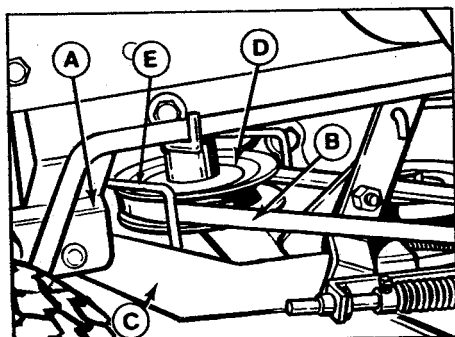
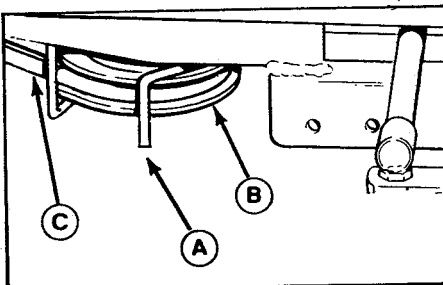
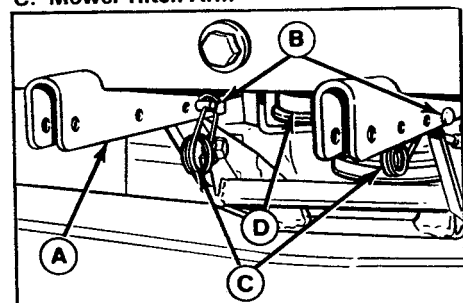

Figure 3. L.H. PTO Pulley Belt Stop
Figure 5A. R.H. PTO Pulley Belt Stop
Figure 4. Mower Hitch Attached
7. Position the mower hitch arms (C, figure 3) so they are underneath the rear holes in tractor hitch (A, figure 4). Lift up one side of mower with both hands
and align hole in mower hitch arm with rear hole in tractor hitch. When holes align, use one hand to insert a pin (B, figure 4) thru hitch. Go to the other side and insert the other pin. Install the two safety clips (C) in the pins.
8. Slip the mower drive belt onto the Engine PTO pulley (D, figure 3). Loosen the belt stops if necessary. The left-hand belt stop is item E in figure 3. The right-hand belt stop is item A in figure 5A.